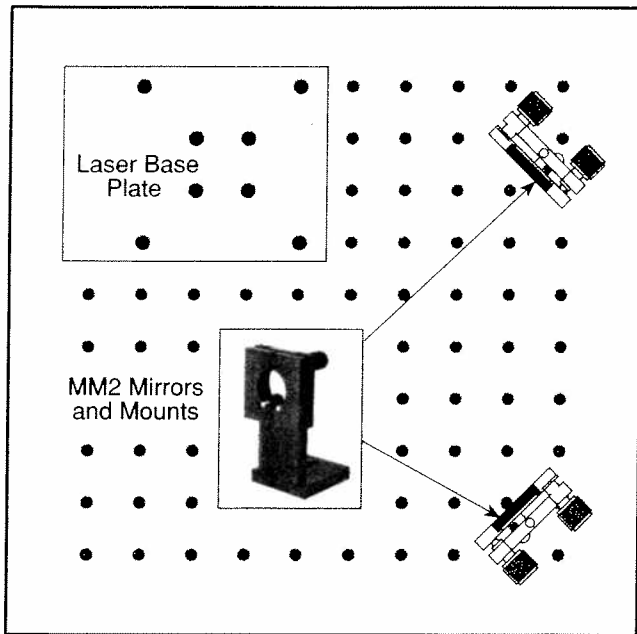

Fig. 2. – Install the mirrors and mounts MM2.
- Mirrors: Install the mirrors and mirror mounts (MM2) in their location as shown in Fig. 2. Do not install the LP-1 onto the breadboard at this time.